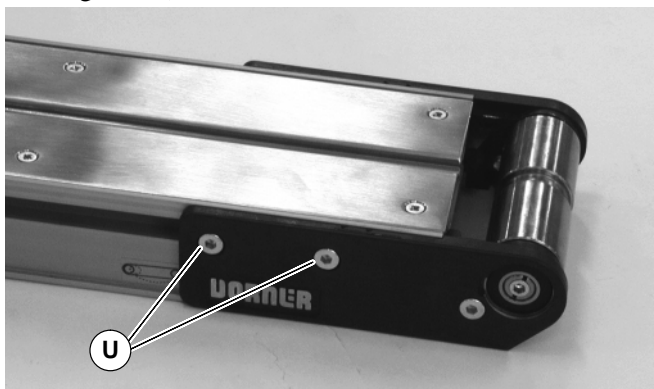

Figure 45
2. Install pulley assembly on conveyor. On both sides of conveyor, hand tighten fastening screws (U of Figure 45).